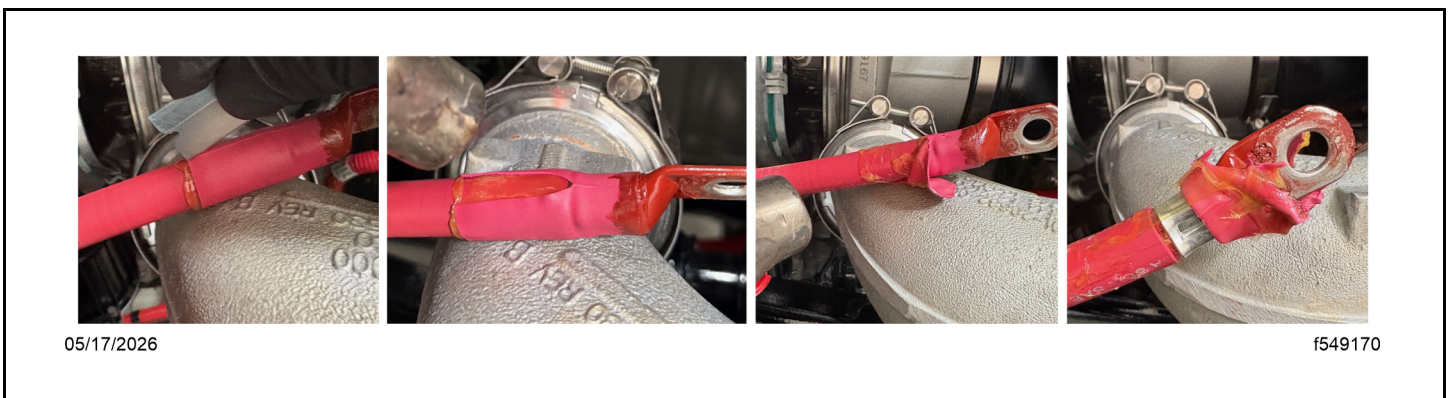

Fig 74, Heat Shrink Removal
- b. Remove the original heat shrink. To do so, heat it, score it, and continue to heat it until the score splits and the adhesive softens. See Fig. Fig. 74.